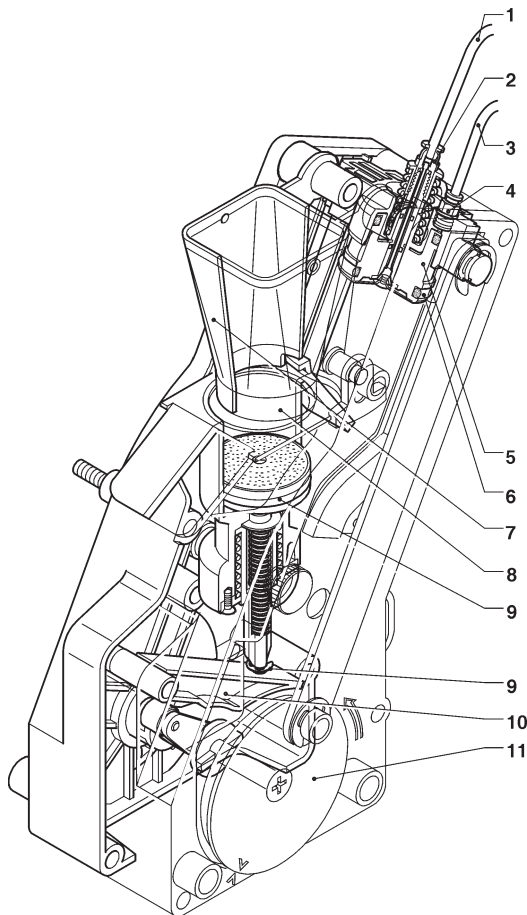

Fig. 22
If you request for a coffee-based selection, the grinder will work for the time required to fill in the brewing chamber with the coffee dose set up via software. After having reached the dose of ground products, the ratio-motor engaged on the crank (11) of the unit will turn by 180°, thus causing the brewing chamber (8) to swing (see fig. 22).